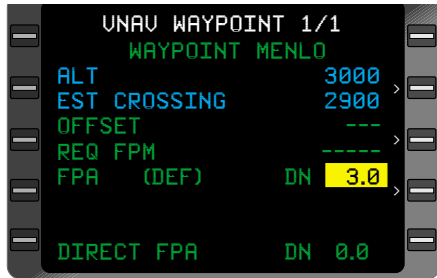

Figure 3-124
8. Flight Path Angle (**FPA**) - INSERT or VERIFY (valid range is 0.1 to 6.0). (Figure 3-124)